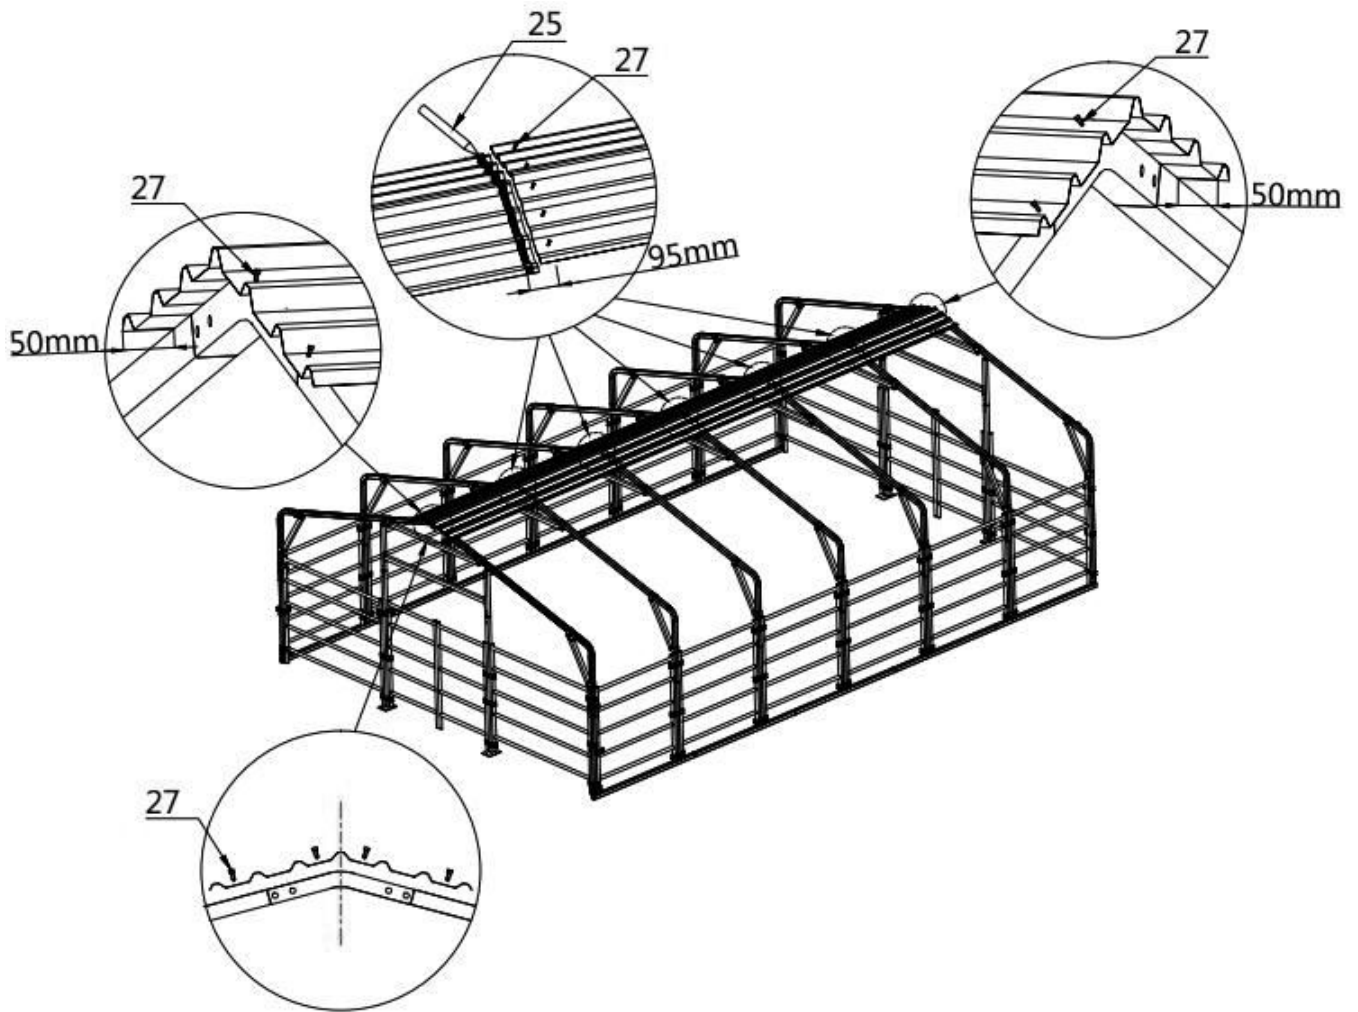

**Figure 12**
- Install the fence between the trusses, the left and right trusses and fences are fixed with single fastener (#21), middle trusses and fences are fixed with double fastener (#20), and locked with hex bolt (#33) , same installation method on both sides (refer to figure 12).